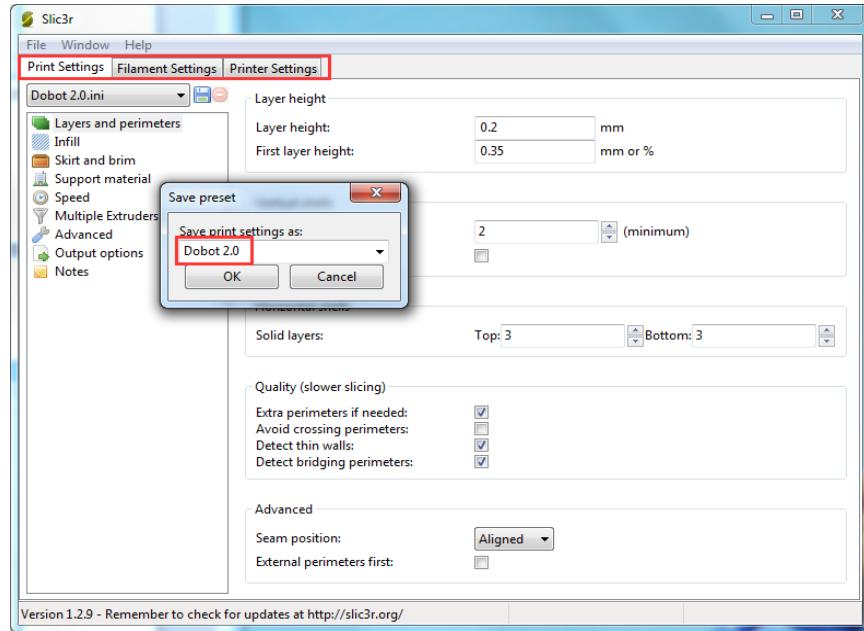

Figure 5.128 Save configuration file
- Save the **Printing Settings**, **Filament Settings** and **Printer Settings** tabs respectively after importing configuration sample, as shown in Figure 5.128.